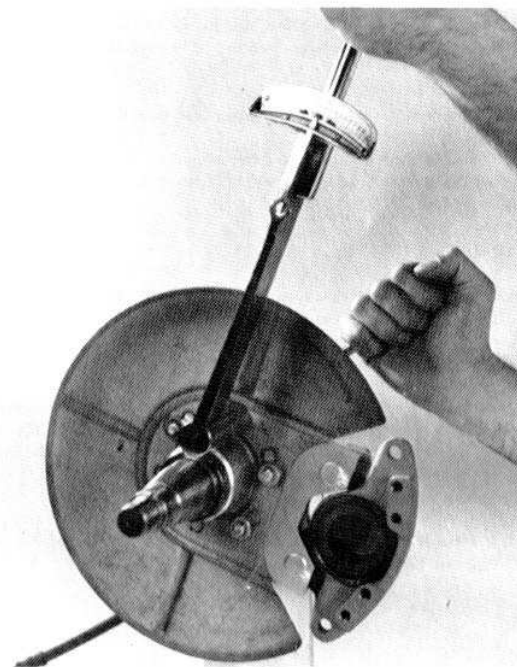

Fig. 45
2. Installing the Splash Shield & Mounting Bracket (Fig. 45)